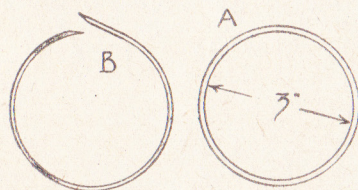

Fig. 2—The rings
The rings may be bought at a toy or sport shop. They are of rubber, about the best material for such a purpose, being silent in action. If any difficulty is experienced in getting these rings, then it is not a great matter to make a set for oneself. They can be cut from plywood, with an internal diameter as at (A) in Fig. 2, and external one of $3\frac{1}{2}$ ins., not more. These are, however, rather noisy when striking the board, and a good plan to silence them is to wind a thin cord or twine round them.
If you can get a piece of thick rubber, say, about $\frac{1}{4}$ in., then good rings can be made by cutting a strip $1\frac{1}{2}$ ins. wide and long enough to make the rings, plus $\frac{1}{4}$ in. for the joint. Scarfe the joint as at (B) in Fig. 2, and cement together with rubber solution, binding it until the solution is safely set. This can be cut into six slices